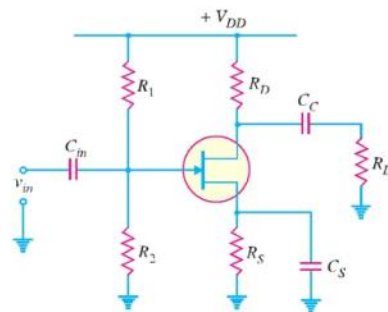
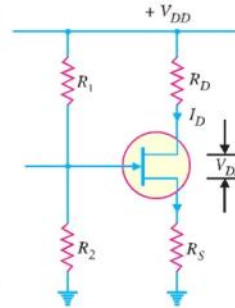
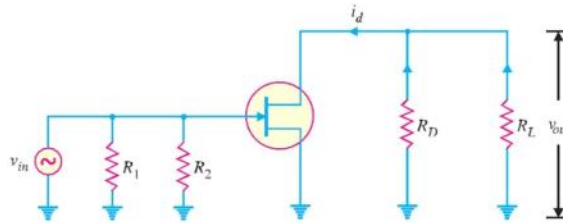

Fig. 19.30
Fig. 19.31
Fig. 19.32
We shall split the *JFET* amplifier shown in Fig. 19.30 into d.c. and a.c. equivalent circuits. Note that biasing is provided by voltage-divider circuit.
Applying these two steps to the JFET amplifier circuit shown in Fig. 19.30, we get the d.c. equivalent circuit shown in Fig. 19.31. We can easily calculate the d.c. currents and voltages from this circuit.
Applying these two steps to the circuit shown in Fig. 19.30, we get the a.c. equivalent circuit shown in Fig. 19.32. We can easily calculate the a.c. currents and voltages from this circuit.
* Note that one end of R_1 and R_2 is connected to one point (See Fig. 19.32) and the other end of R_1 and R_2 is connected to ground. Therefore, $R_1 \parallel R_2$. Similar is the case with R_D and R_L so that $R_D \parallel R_L$.